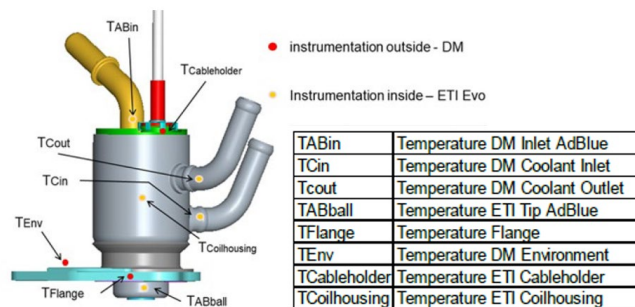

Figure 7-35. Measurement points for instrumented dosing module
- If temperature measurements are performed, the measurement points (figure 7-35) of the instrumented dosing module are shown in the offer drawing and must be used.